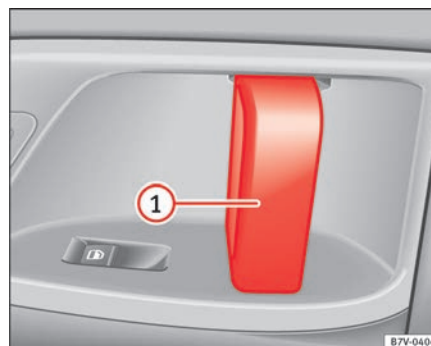

Fig. 50 On the sliding door, door handle ①. ►
Opening the sliding door from the inside.	When the sliding door is released, open the door fully by pulling on its interior handle ⇒ fig. 50 ①.